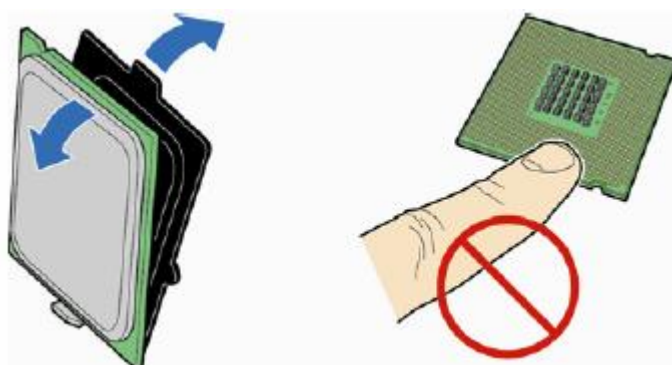

Figure 22: Remove the processor from the protective cover
3. Remove the processor from its protective cover. Hold the processor only at the edges, being careful not to touch the bottom of the processor (see Figure 22).